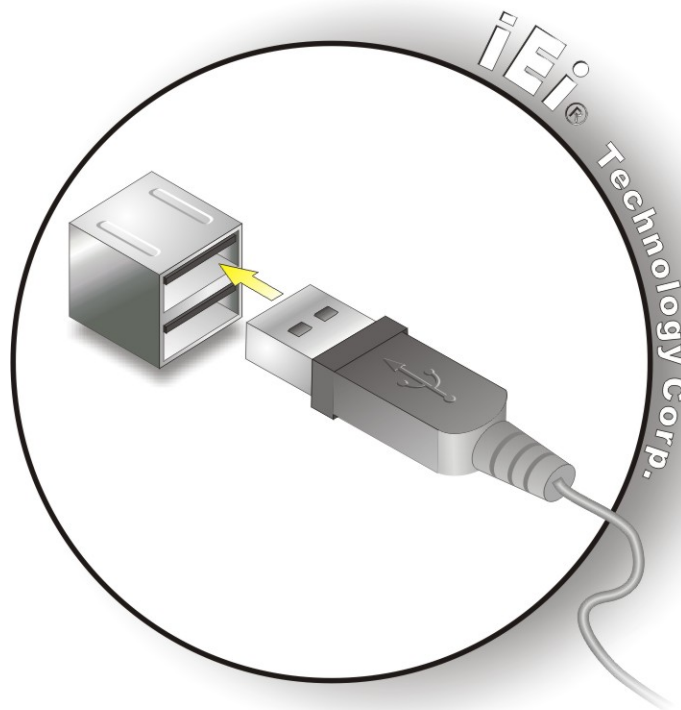

Figure 3-31: USB Device Connection
Step 2: Align the connectors. Align the USB device connector with one of the connectors on the AFL2-W15B-H61. See **Figure 3-31**.